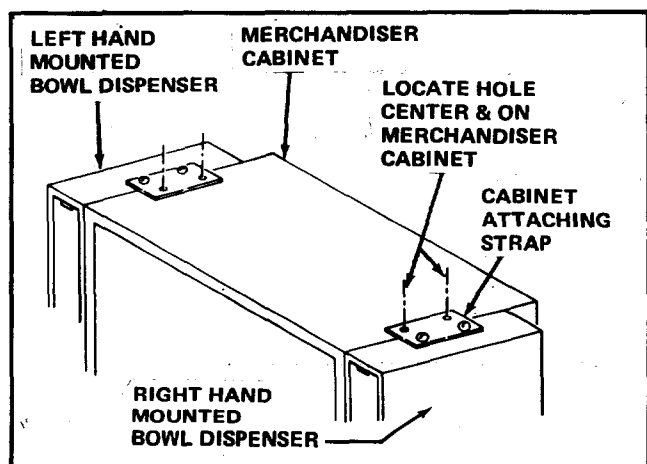

FIGURE IV-3
J. 1. Mark the hole center location of the two unused holes in the Cabinet Attaching Strap on to the top of the Merchandiser Cabinet. See Figure IV-3.